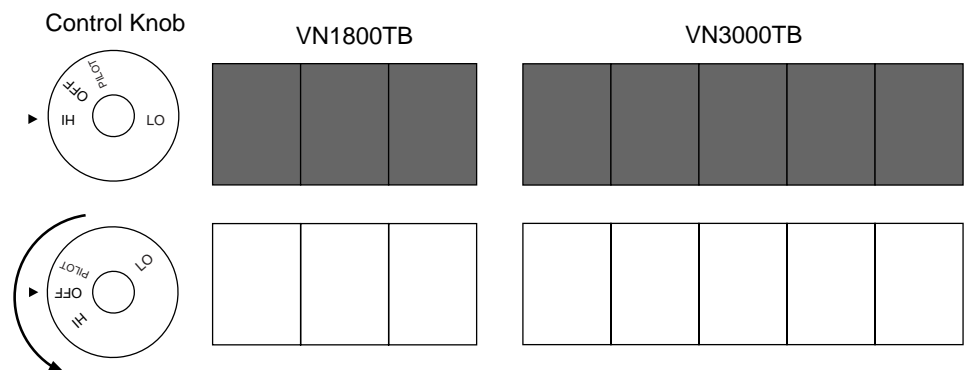

Figure 17 - Burner Patterns
8. Turn control knob counterclockwise to desired heating level. The main burner should light. Set control knob to any heat level between HI and LOW (see Figure 17).